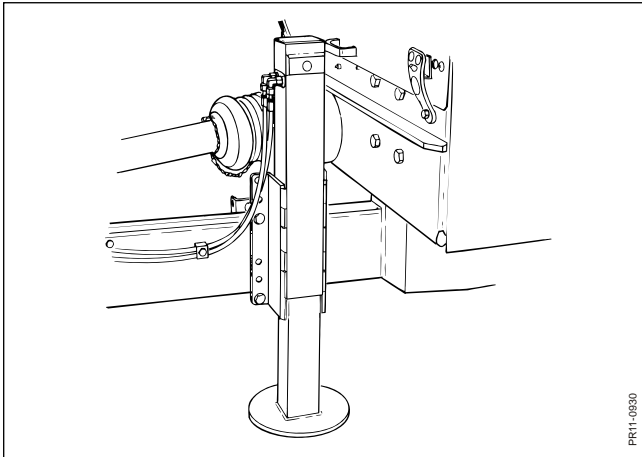

Fig. 4.10
- Fig. 4.10** A hydraulic jack is optional (regarding ordering No.: see spare parts list). This jack requires the tractor to have a double acting take-out, in addition to a single acting for the other hydraulic functions.